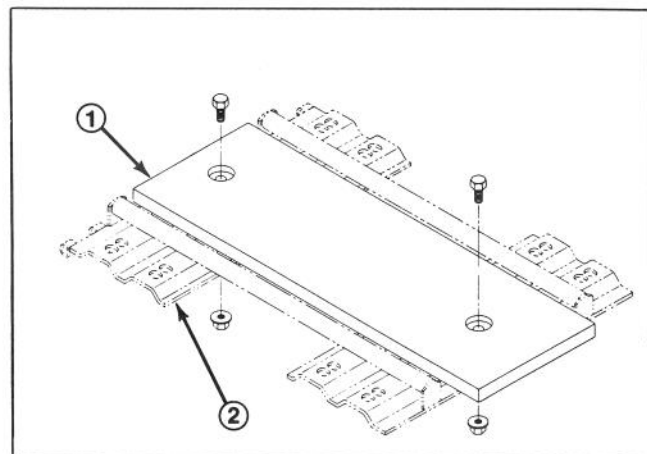

Figure 3
Note: For operators that are lightweight, less than 150 pounds and short in stature, less than 5'4" tall, an optional weight kit (Toro part no. 80-4210) for seat model 30796 is available from your Authorized Toro Distributor. Mount weight to top of seat plate with (2) capscrews and flange nuts as shown in Figure 3. When using weight, seat slide adjusters should be mounted in the forward set of holes provided in seat